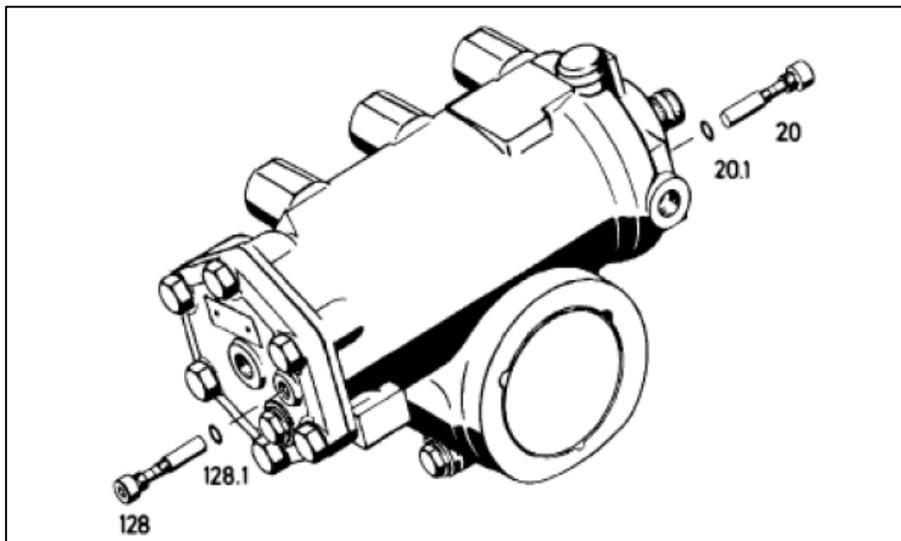

FIGURE 1 : SCREW 128 & 20 - REFER TO RB ROBERT BOSCH SERVOCOM - SERVICE MANUAL (8090)
2. Unscrew and remove the screws (item 128 & 20, FIGURE 1).
2. Grease the O-ring (item 128.1 & 20.1, FIGURE 1).
3. Screw in new screws (item 128 & 20, FIGURE 1) (tightening torque: 12+3 Nm / 9+2 lbs-ft).